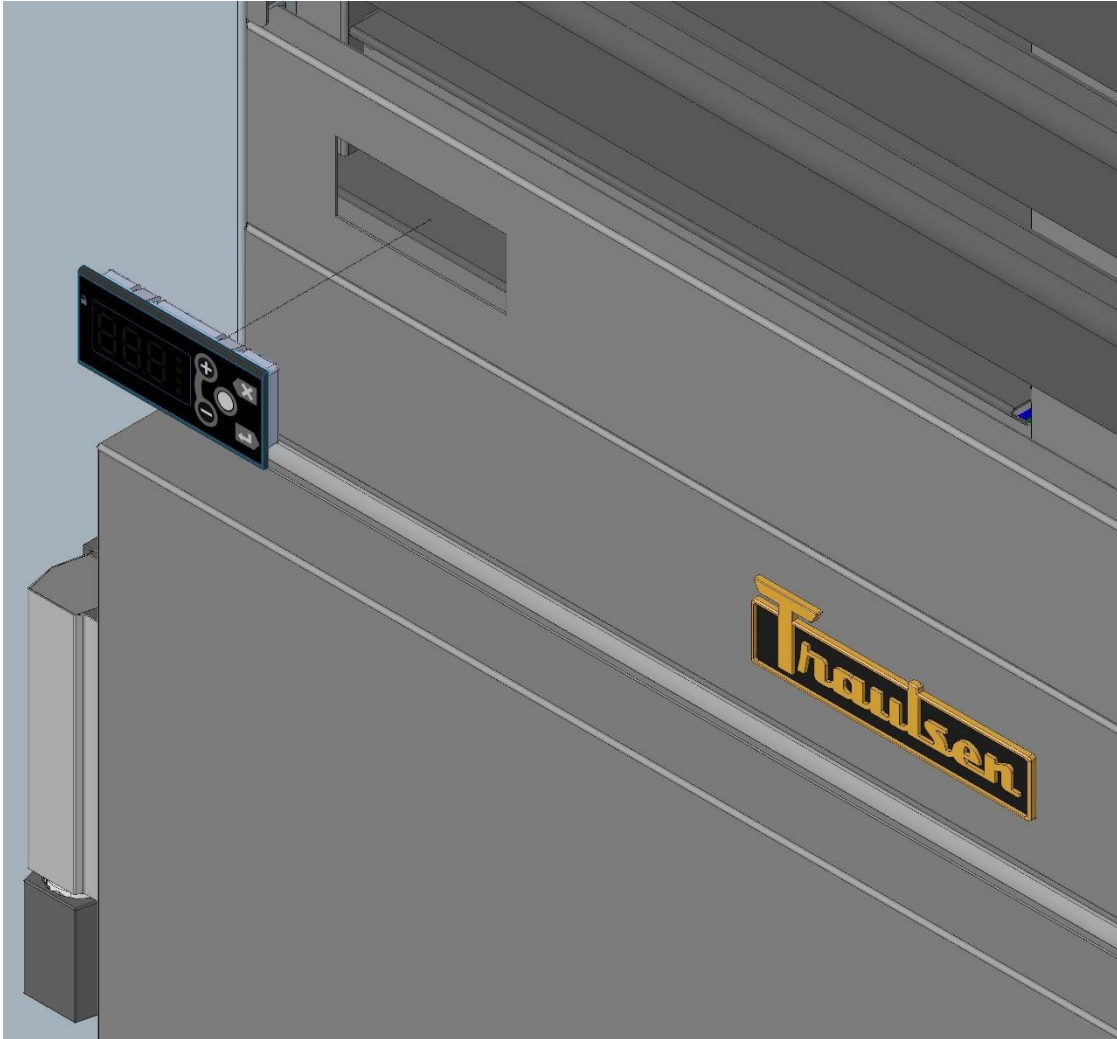

Figure 35: Display Removal
Remove bottom louver screws and rotate louver up out of the way. Disconnect cable from the back of the controller. Lastly, squeeze the (4) tabs holding on the back side of the display and push outward to remove the display. See Figure 35.